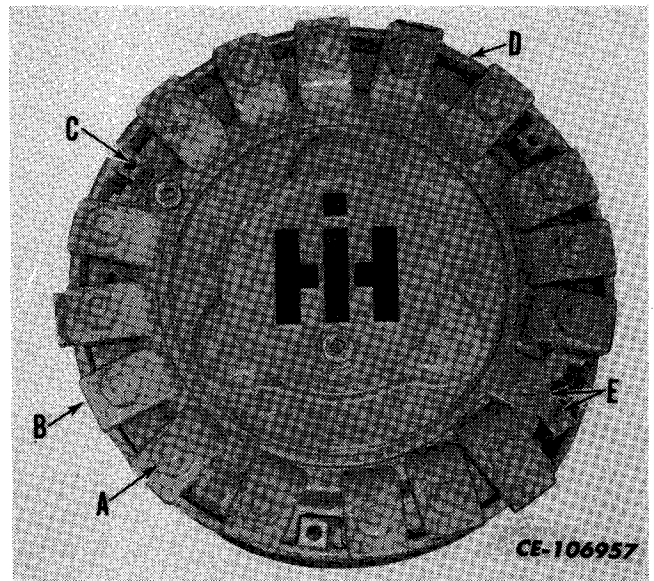

Fig. 5. Outer Tire and Rim Clamps and Nuts
c. Remove the wheel rim clamp nuts (A, Fig. 5) and the wheel rim clamps (B, Fig. 5). Remove the tire valve cap and the support (E, Fig. 5).
d. Place a fiber hoist sling around the perimeter of the outer tire. Remove the three corks (C, Fig. 5) from the wedge band (D, Fig. 5). Replace the corks with three 5/8-11 UNC bolts with a minimum thread length of three inches. Tighten these bolts until the wedge band unseats then remove the wedge band. Remove the outer tire and rim.